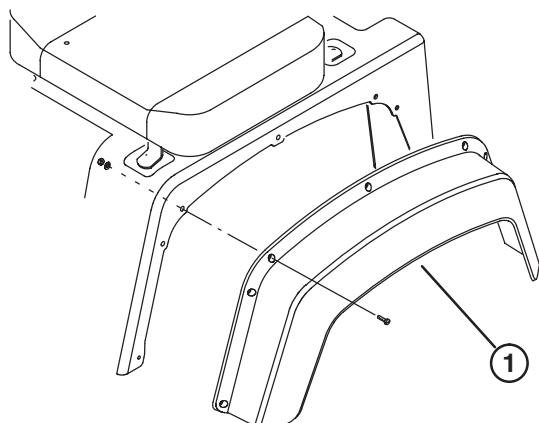

**Figure 6**
1. Insert each side of ROPS into mounting bracket on each side of vehicle frame, positioning ROPS as shown in figure 6.
2. Secure each side of ROPS to mounting brackets with (2) 1/2-13 x 3" lg. capscrews and locknuts.